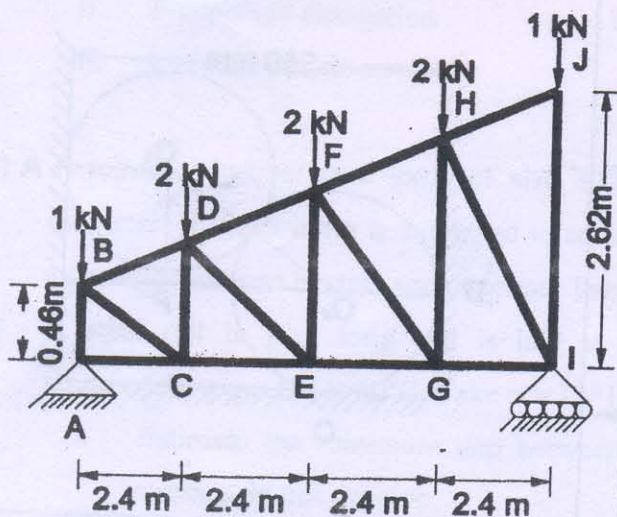

Figure 9
- (b) Determine the forces in members FH, GH and GI for the truss shown in figure 9. 07